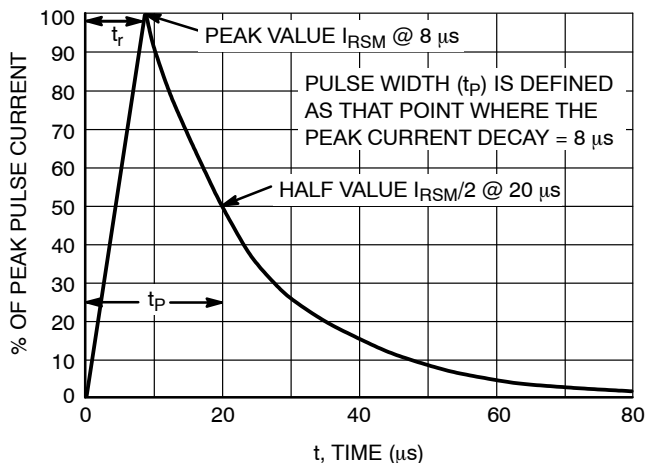

Figure 2. 8 × 20 μs Pulse Waveform
1. Non-repetitive current pulse per Figure 2
5. Surge current waveform per Figure 2